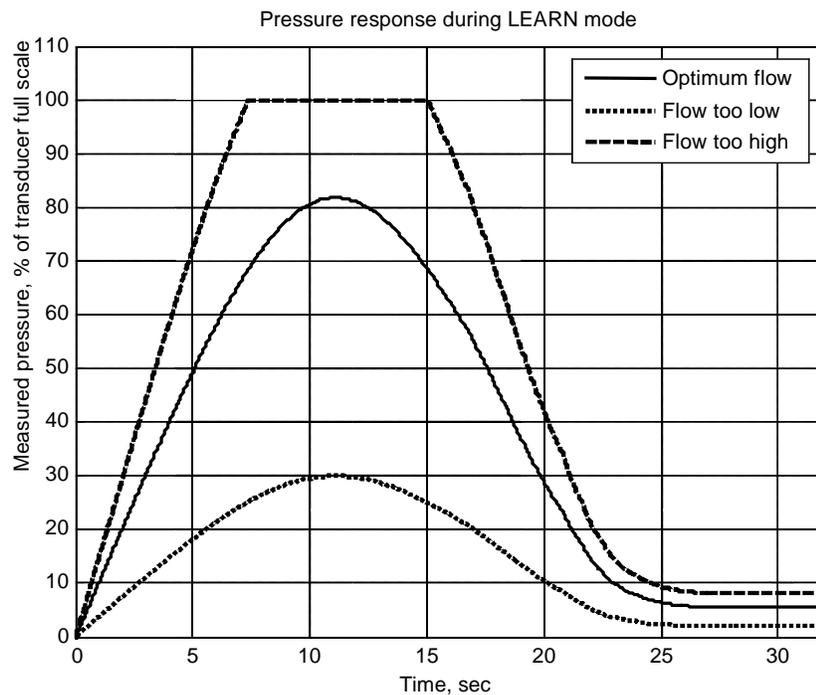

Figure 13: Typical Pressure Response in LEARN Mode
channel transducer. The typical duration of the LEARN sequence is less than 45 seconds. The pressure response curve should resemble the solid line in Figure 13.
- A low pressure response curve (dotted line in Figure 13) indicates an insufficient flow rate during the test. The resulting pump speed curve to be used by the model-based control algorithm would be inaccurate and compromise the quality of pressure control.
- An excessively high pressure response curve (dashed line in Figure 13) would show transducer saturation (flat top) that would more significantly compromise the accuracy of the pump speed curve and resulting pressure control performance.